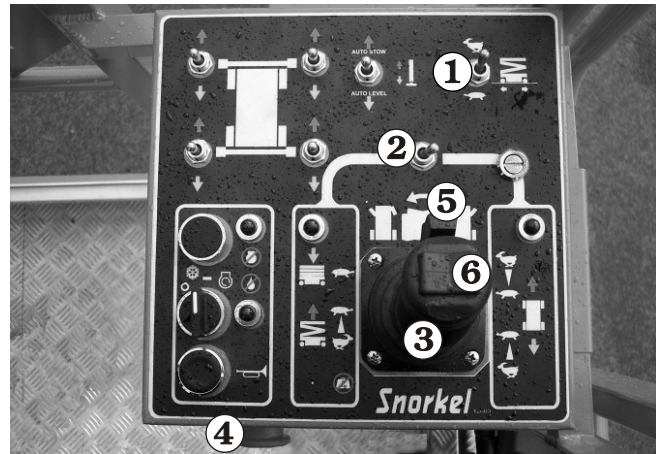

Figure 8.18
2. Set the **Speed** switch **1** to turtle (slow) (see Figure 8.18) if you are going to be driving close to other objects or need to move the RT very slowly for other reasons.
3. Set the **Lift/Drive Selector** switch **2** to drive (right) (see Figure 8.18).
4. Squeeze and hold the **Safety Control** **5** against the Joystick Controller **3** (see Figure 8.18).
5. Push the Joystick Controller **3** (see Figure 8.18) slowly forward or pull it slowly backward, depending on which way you want to go. The further you move the joystick the faster the RT moves.
6. To make a right or left turn, press and hold the **Steering** rocker-switch **6** on top of the Joystick Controller **3** (see Figure 8.18).